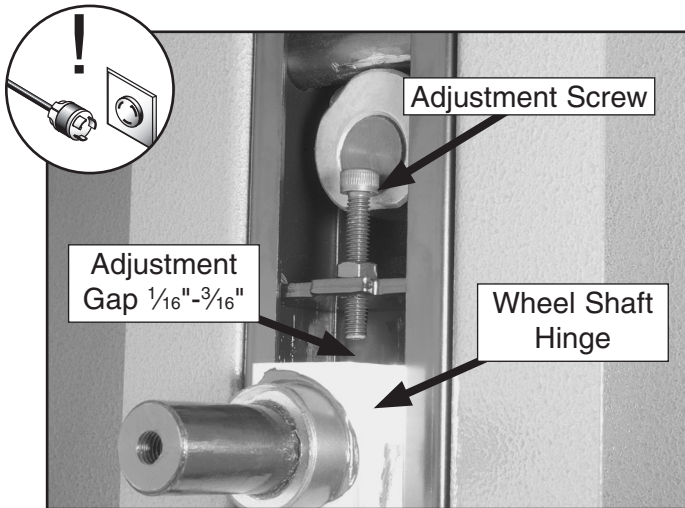

Figure 60. Tension lever adjustment components.
5. Turn the adjustment screw shown in **Figure 60** until the gap between the screw and the wheel shaft hinge is $\frac{1}{16}$ " – $\frac{3}{16}$ ".